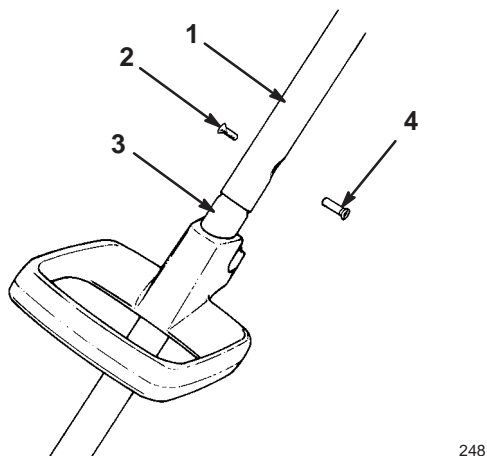

Figure 3
3. Slide the lower tube into the upper tube until the screw holes line up (Fig. 3).
4. Secure the upper and lower tubes by inserting the countersunk nut and the slotted screw (supplied in the loose parts bag) through the aligned holes in the tubing (Fig. 3).